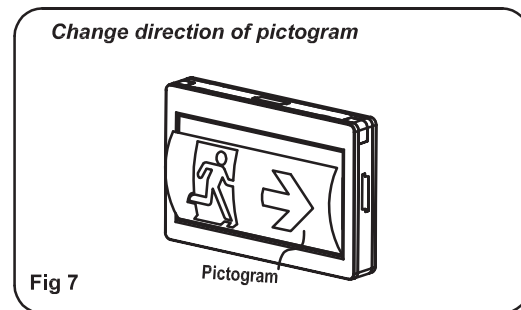

Fig 7
9. If pictogram direction assembled not suitable, pictogram can take out for change direction or replace pictogram, and then insert into the diffuser easily(See Fig 7).